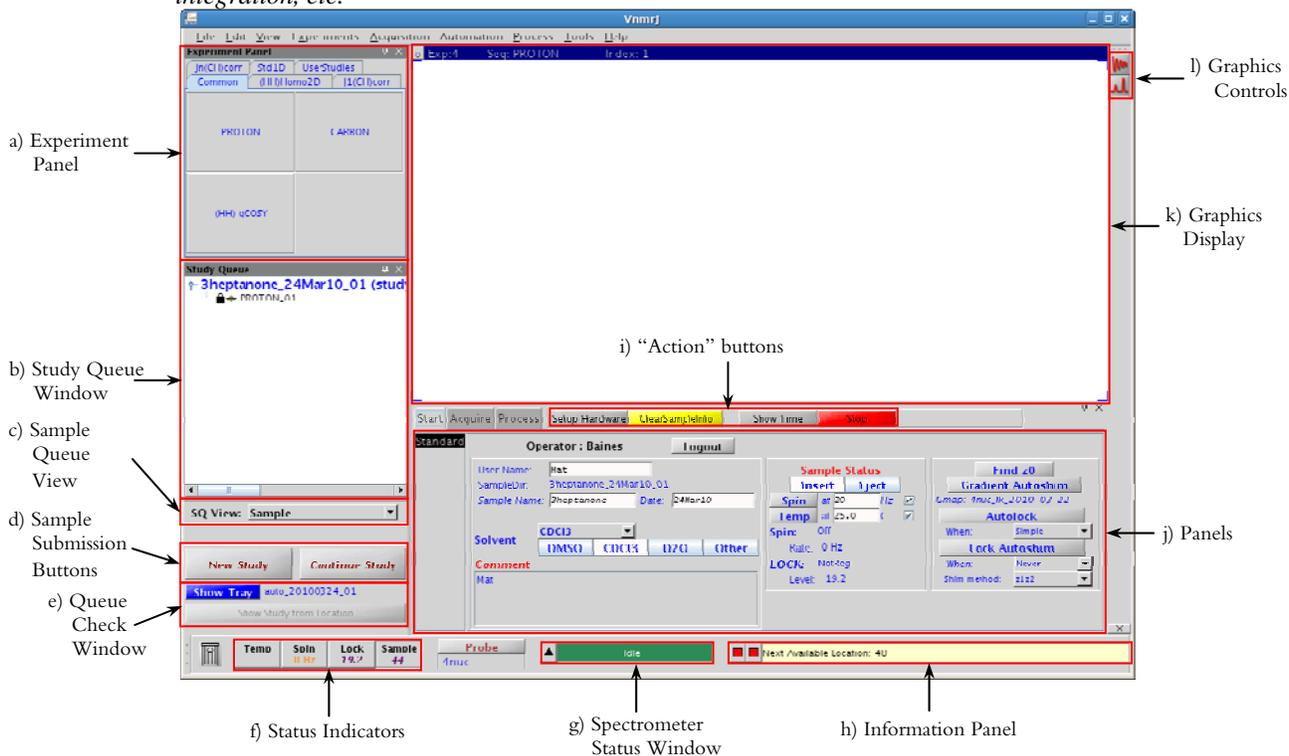

Figure 2. The VNMRJ screen displayed after log-in. The most important buttons and panels are labeled.
- 1) The screen displayed upon logging into the Mercury 400 is displayed in Figure 2. The following sections and buttons are the most important: